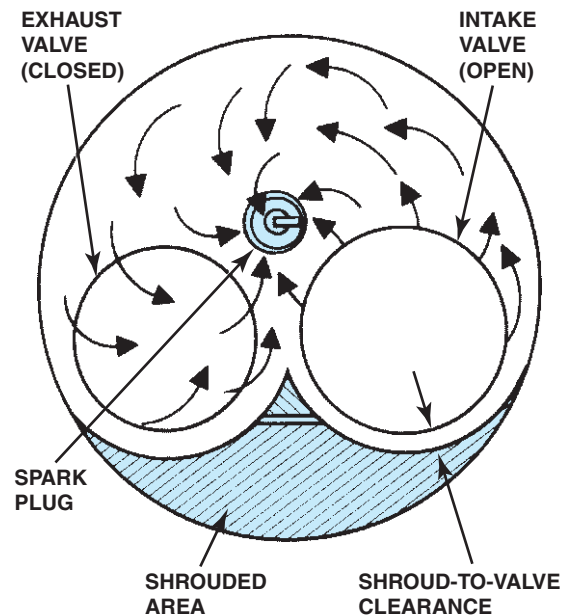

FIGURE 22-5 The shrouded area around the intake valve causes the intake mixture to swirl as it enters the combustion chamber.
- **Valve shrouding**—Shrouding means that the valve is kept close to the walls of the combustion chamber to help increase mixture turbulence. See Figure 22-5. While shrouding the intake valve can help swirl and increase turbulence, it also reduces the flow into the engine at higher engine speeds.